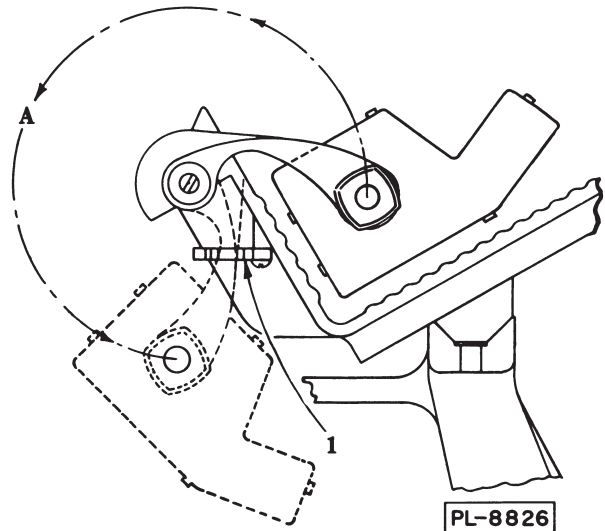

Fig. 3
- 5.2.2 Swing the grip around as shown by arrow and broken line (A, Fig. 3).
- 5.2.3 Rotate the grip into a position that allows it to nest in the grip retaining clip (1, Fig. 3).